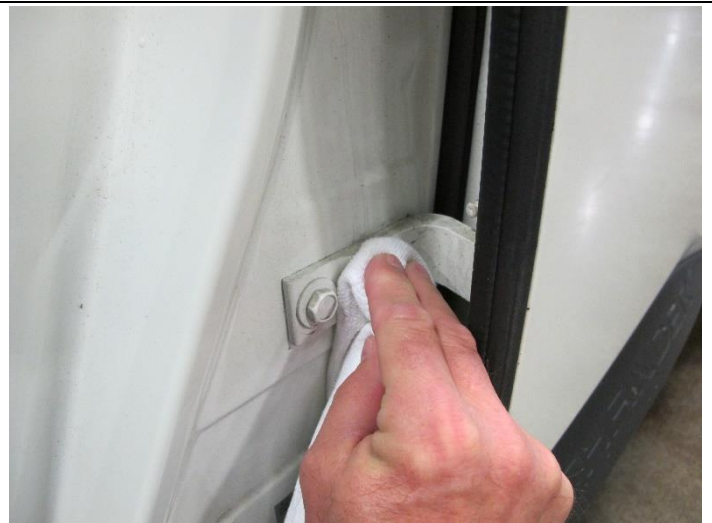

Figure 6
6. Using a clean lint free cloth, clean replacement bolt head and captured washer with rubbing alcohol (Figure 6).